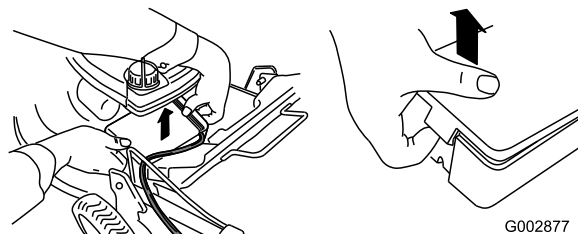

Figure 39
1. Unclip both ends of the battery cover and remove it (Figure 39).